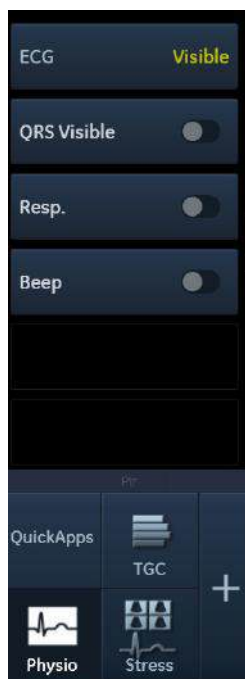

Figure 4-22. ECG controls
1. The ECG is displayed by default in all cardiac applications. For all other applications, select the shortcut **Physio** on the Shortcut Bar. and select **ECG** (Figure 4-22).